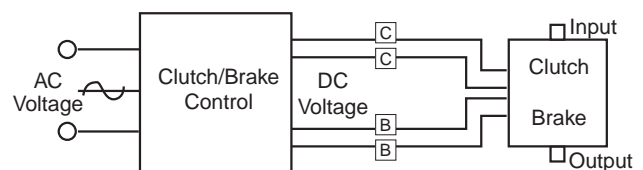

Figure 2
3. Using the provided wire terminals, make the proper electrical connections between the EP-W and a suitable DC power supply. Refer to Figure 2 for typical EP-W connections. Polarity is not important when wiring Electro-Pack units.